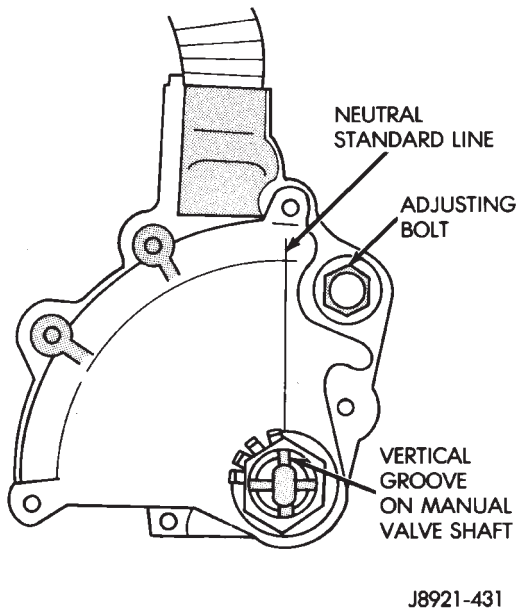

Fig. 184 Park/Neutral Position Switch Installation/ Adjustment
(100) Mount park/neutral position switch on manual valve shaft and tighten switch adjusting bolt just enough to keep switch from moving (Fig. 184).
(101) Install park/neutral position switch tabbed washer and retaining nut (Fig. 184). Tighten nut to 6.9 N·m (61 in. lbs.) torque, but do not bend any of the washer tabs against the nut at this time.
(102) Align park/neutral position switch standard line with groove or flat on manual shaft (Fig. 184).